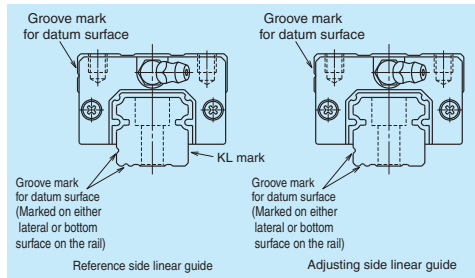

Fig. 10.1 Datum surface
- If two or more linear guides are used together, one linear guide is designated as the reference side guide, and the others as adjusting side guides. The reference side linear guide has its reference number, serial number, and "KL" mark on the opposite side of the datum surface (Fig. 10.1).